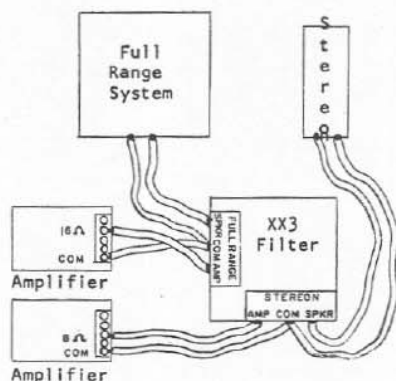

Fig. 3 — Schematic Wiring Diagram
In the single STEREOON system, as illustrated in Figure 3, the 16-ohm output of one amplifier and the 8-ohm output of the second unit are fed into the Model XX3 STEREOON CONTROL FILTER. This unit correctly phases the BASS below 300 cycles per second from both channels and directs the composite bass to the full-range system. This makes use of the full bass reproduction capabilities of the system in supplying full bodied bass for both channels. The upper range of one channel follows into the same full-range system; the mid and high-range from the other channel is fed to the highly developed STEREOON. The STEREOON
1. Connect amplifiers, full-range system and STERION to STERION CONTROL FILTER as shown in Figure 3.